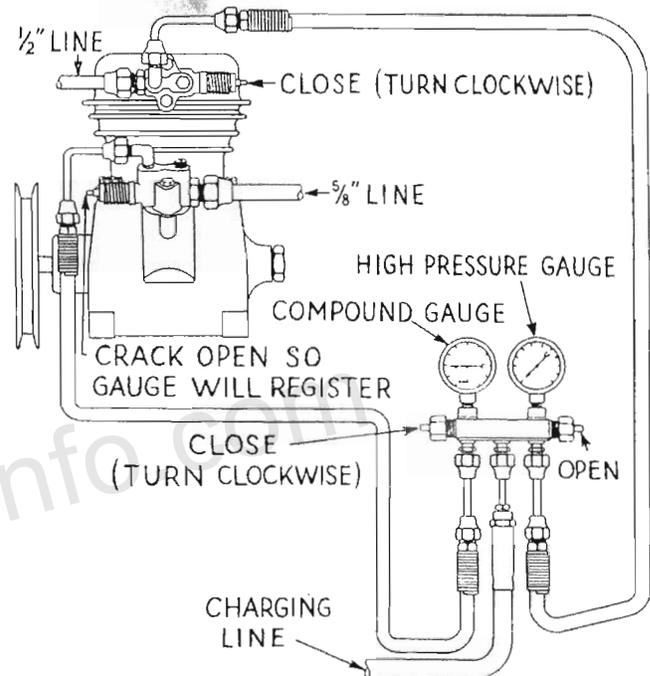

Fig. 5
1. Install gauges and adjust valves as shown in Figure 5.